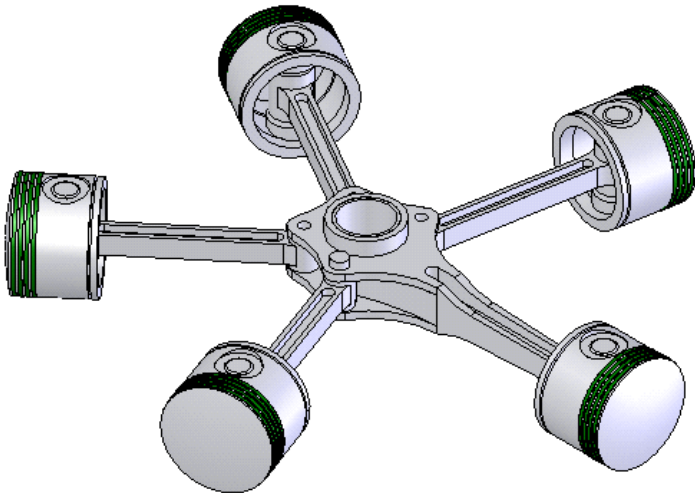

Figure 11-51 First instance of the Link pin assembled with the master assembly
1. Place the Link Pin in the assembly document and using the assembly mates, assemble the Link Pin with the master assembly. Figure 11-51 shows the first instance of Link Pin assembled with the master assembly.